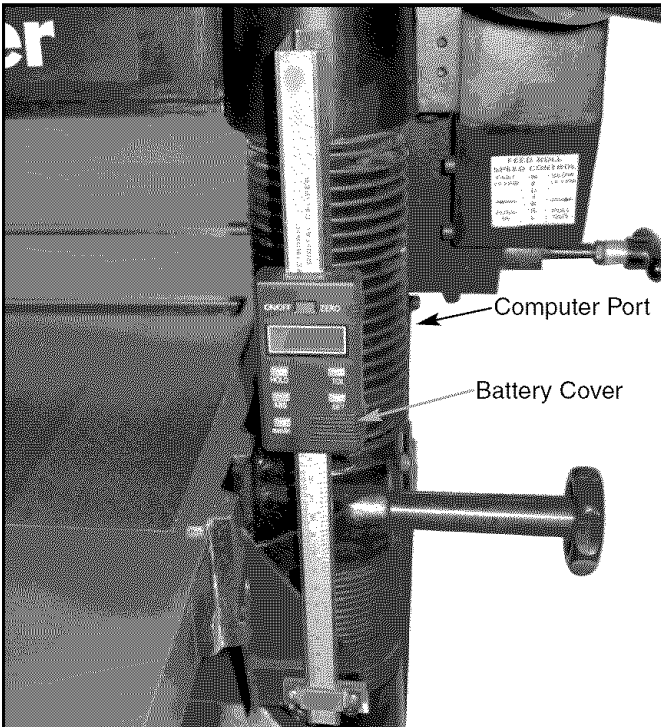

Figure 6 – Functions of the Digital Scale
Refer to Figure 6, page 8.
- Data from the digital scale can be input into a computer via the port at the side of the device. Simply slide off the small port cover (see Figure 6, page 8).